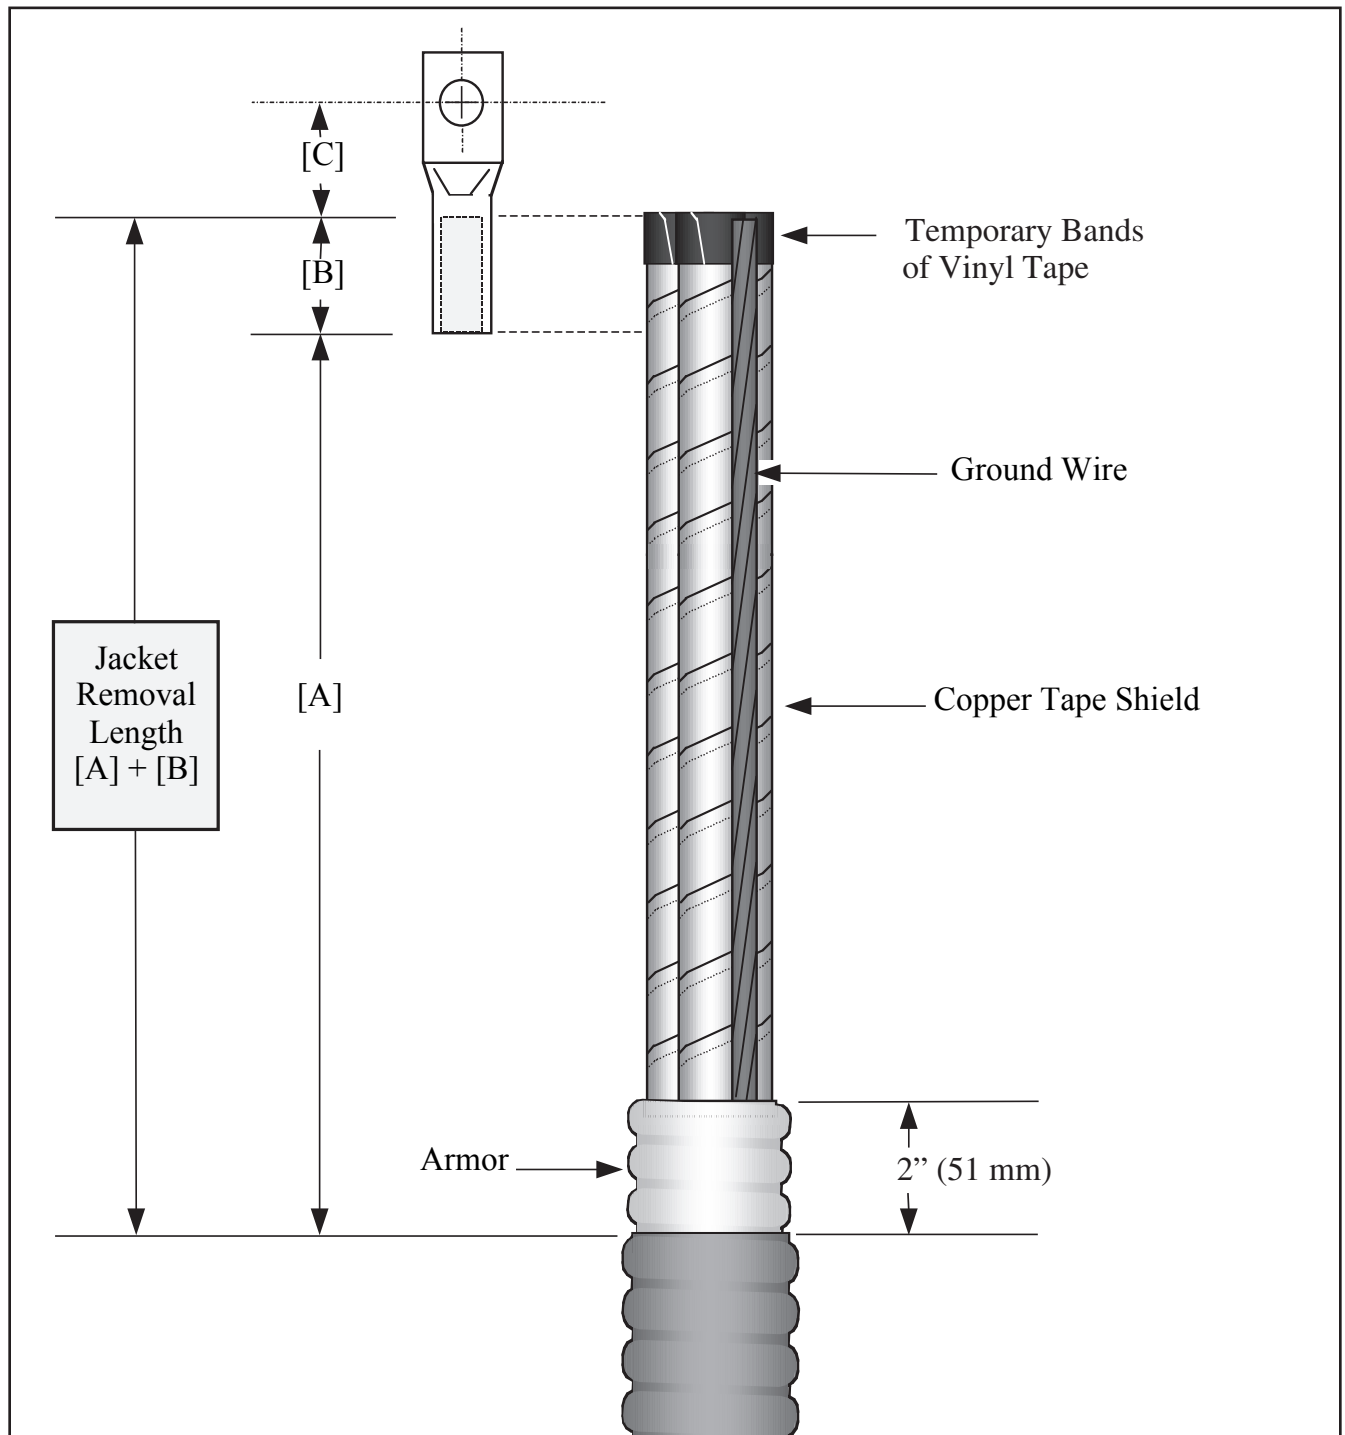

Figure 1
- 2.1 Determine cable jacket removal length required for correct phase spacing and bolted terminal lug connections ($[A] + [B]$ Figure 1; based on the longest phase to be connected). Allow for dimension $[C]$ as needed.
- 2.2 Remove cable jacket, armor, bedding (inner sheath) and core fillers according to Figure 1 dimensions. Secure copper tape shield ends with temporary bands of vinyl tape (Figure 1).